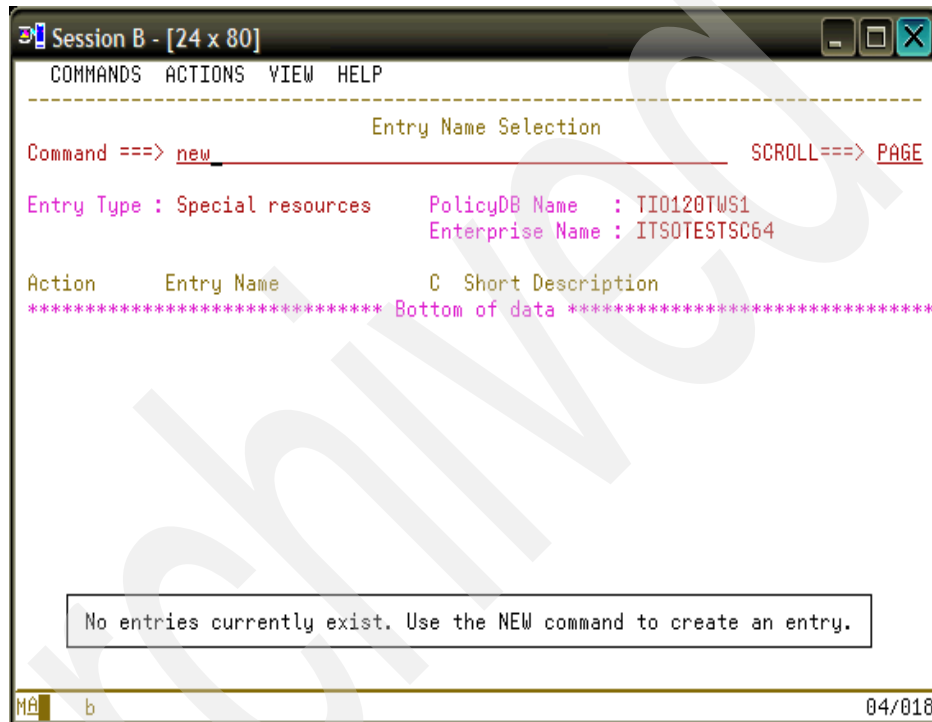

Figure 4-60 Entry Name Selection for OSR entry
1. Select option **32 - OSR** Special resources from the Entry type selections for Product Automation panel and press Enter. The Entry Name Selection panel that is shown in Figure 4-60 displays.